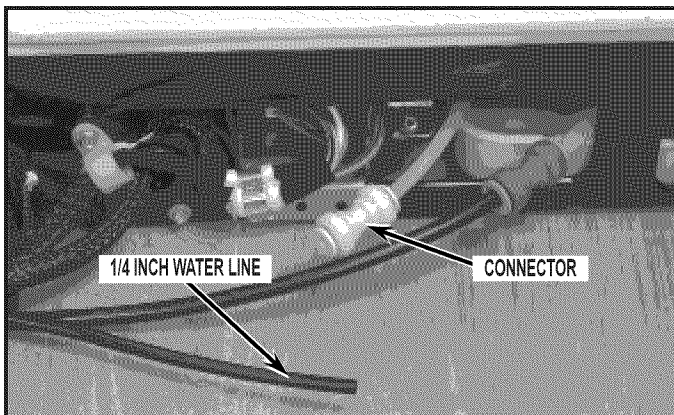

FIGURE 2
3. Disconnect the 1/4 inch water line at the connector in the grille area. See *Figure 2*.